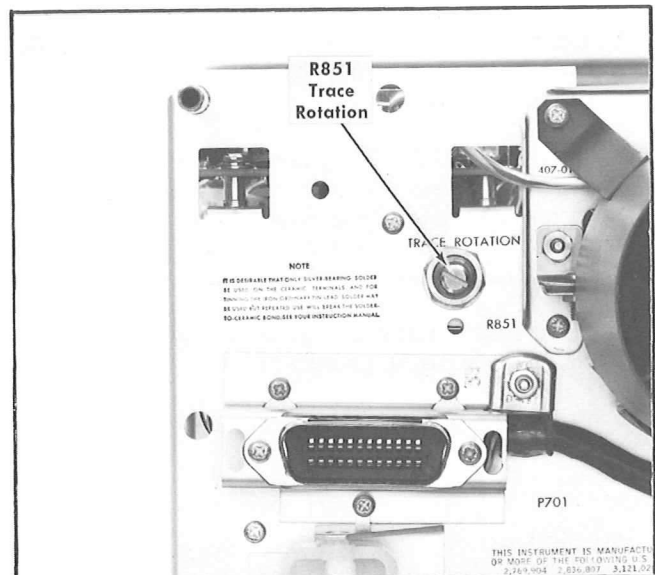

Fig. 5-9. Location of Trace Rotation adjustment (rear panel).
d. ADJUST—Trace rotation adjustment R851 (see Fig. 5-9) so the trace is parallel to the center horizontal line.